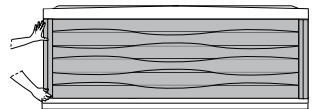

Figure 13.2a
1. Grab one of the corner panels, from the bottom, and gently pull the cabinet forward to unhook it from the holding clip. Then slide it down to remove. Place the panel in a safe location to prevent from damaging it. Repeat the steps to remove the other corner panel, Figure 13.2a.